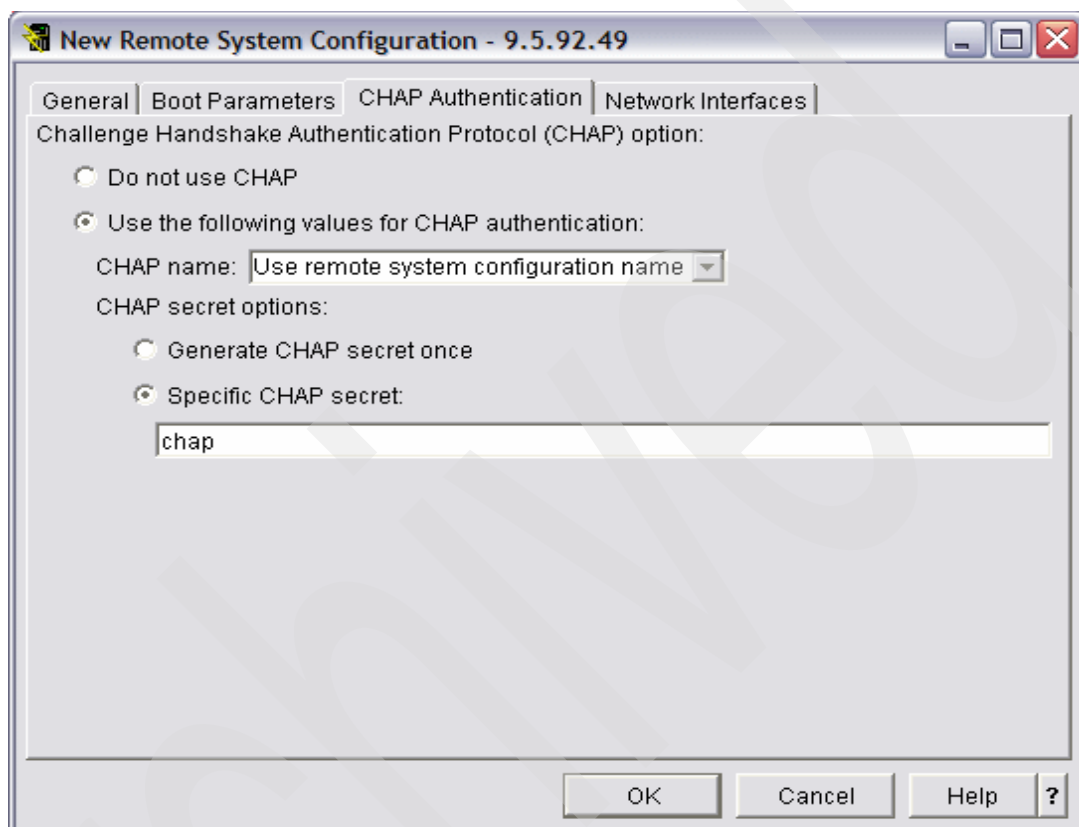

Figure 4-22 Configuring CHAP as part of remote system configuration
8. Configure CHAP authentication (recommended) in Figure 4-22. If you have already configured the CHAP name and secret on the initiator, specify the same name and password here. If you generate the secret, then it will be a very strong secret, but it will need to be entered carefully on the initiator. We are using CHAP as an example. This is not generally an acceptable CHAP secret. Note also this is only authentication using a secret defined between initiator and target; it is not encrypted.